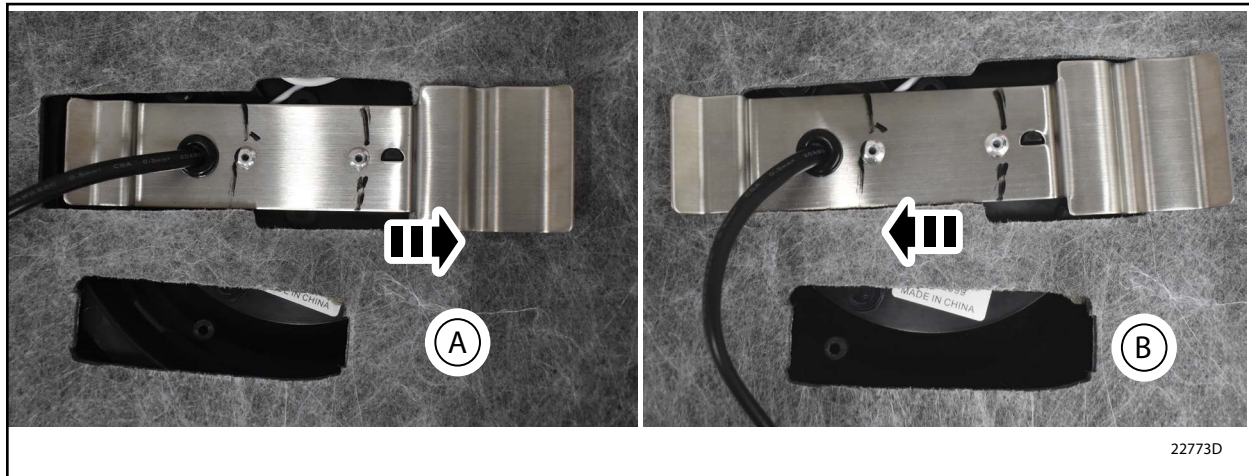

FIGURE 4
- b. Line up the other end of the cargo dome light base to the cut out and slide light into headliner to secure cargo dome light into headliner. See Figure 4.